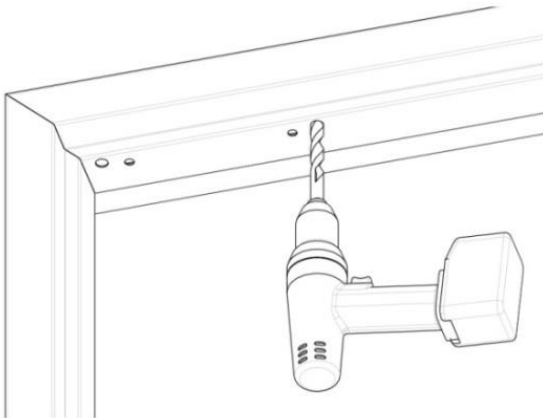

Figure 15. Drilling the Wire Access Holes
11. DRILL wire access holes (1/2" recommended), as needed, on one or both sides of the bracket (see Figure 15, "Drilling the Wire Access Holes").